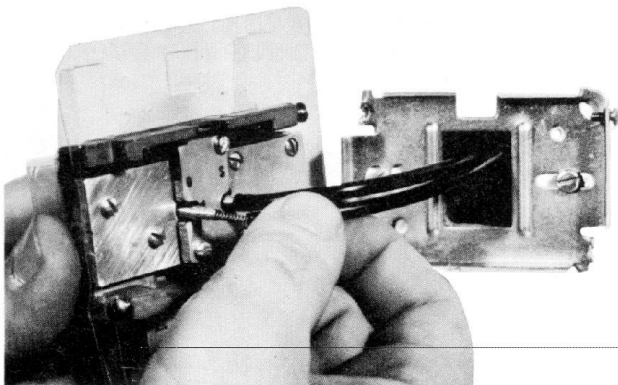

Fig. 2: Direct Tubing Connection
1. Direct Tubing Connection (See Fig. 2)